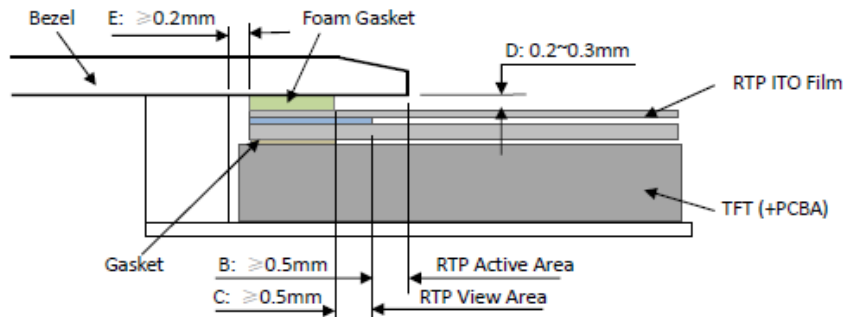

Figure 4
- It should bezel touching the RTP Active Area (A.A.) to prevent abnormal touch. It should left gap $D=0.2\sim 0.3\text{mm}$ in between. (Figure 4)
- 为避免面框直接压在动作区(A.A.)上造成误动作，面框与电阻触摸屏(RTP)之间应留有一定的空隙 $D=0.2\sim 0.3\text{mm}$ 之间。(附图 4)
It is suggested to protect those areas with gasket (between the bezel and RTP). The suggested figures are $B \geq 0.50\text{mm}$; $C \geq 0.50\text{mm}$. (Figure 4)
- The bezel side wall should keep space $E = 0.2 \sim 0.3\text{mm}$ from the RTP. (Figure 4)
框之间垫缓冲物 (Gasket)，我们建议设计面框应覆盖动作区的边缘，面框边缘到 V.A. 区的距离 $B \geq 0.50\text{mm}$ ；垫圈内边缘到 V.A. 区的距离 $C \geq 0.50\text{mm}$ 。(附图 4)
- 在设计面框与 RTP 组装时，应考虑到面框内侧与 RTP 外侧的间距 $E \geq 0.2\text{mm}$ 。(附图 4)